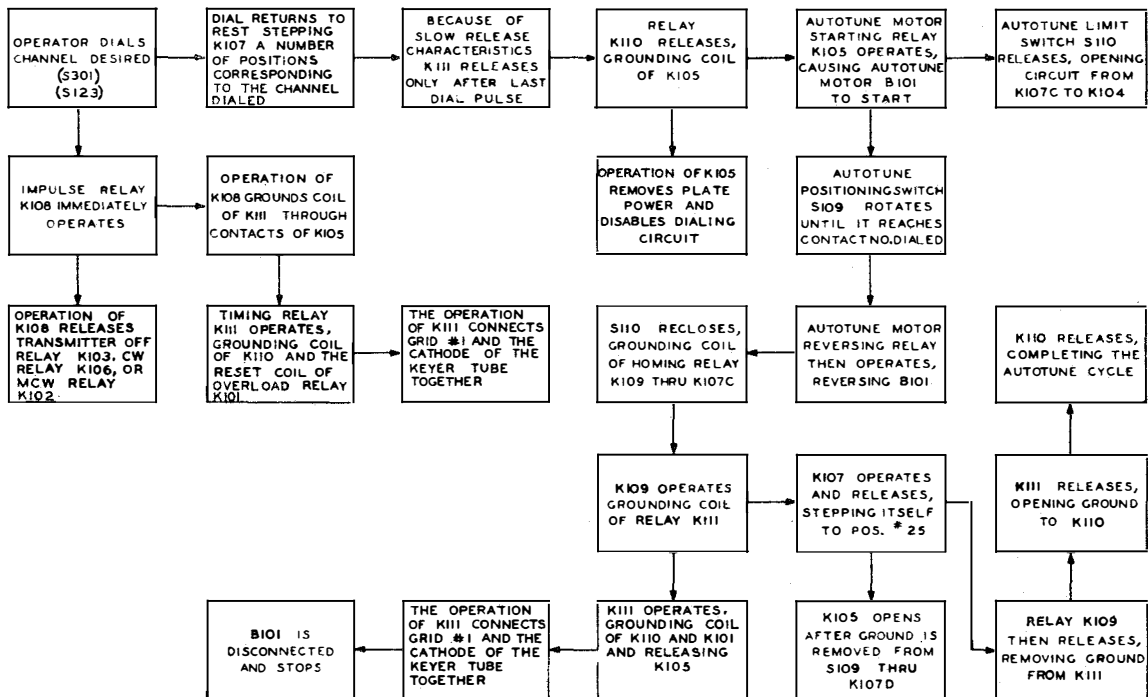

Fig. 5B Collins Autotune System—Sequence of Operation—Channel Selection
**2.6.3. Sequence of Operation.** Refer to Figs. 5B and 5C. The Autotune system is controlled by a number of interlocking relays. The sequence of operation must be preserved in order to accomplish the desired results. However, any disturbance of the sequence will not render the system inoperative for subsequent operations. A step-by-step description of the operation of the control circuits is given here-with: